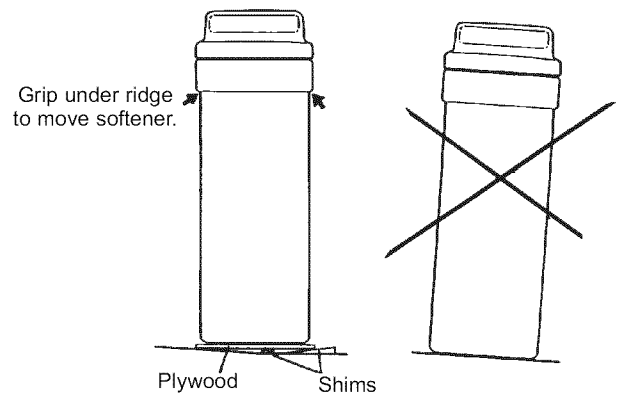

FIG. 14
4. Place on a level and smooth surface. If needed, put a piece of 3/4" plywood, at least 17" x 20", under the tank. Then put spacers under the plywood to level the softener. See Fig. 14.